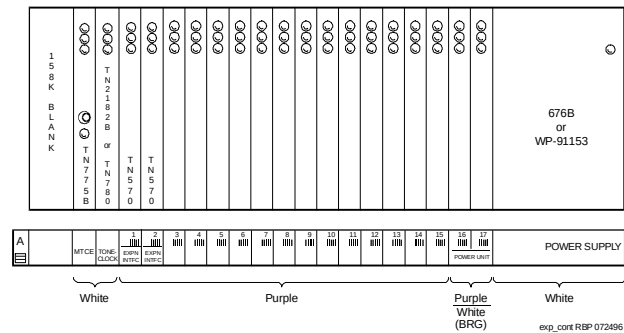

Figure 2-7. Circuit-Pack Locations in DEFINITY ECS R5si Enhanced Control Cabinet
1. Using the Figure 2-7 and the label, install the power unit and control circuit packs into the new enhanced control cabinet.
2. Install the port circuit packs, previously removed, into the “A” cabinet using Figure 2-7 and the label as a guide.